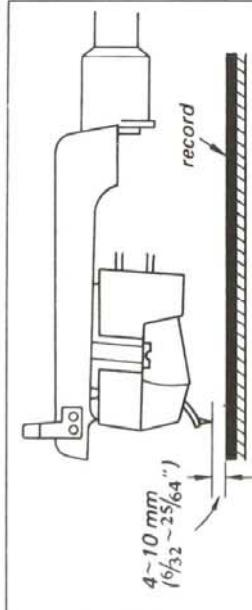

Fig. 3-1. Tonearm height adjustment (1)
- When the tonearm automatically returns to its tonearm rest after playing, check to see that the clearance between the stylus tip and the record on the turntable is 4 to 10 mm ($6/32$ " to $25/64$ ") as shown in Fig. 3-1.
- Confirm that the clearance between the stylus tip and the record on the turntable is 4 to 10 mm ($6/32$ " to $25/64$ ") as shown in Fig. 3-1.